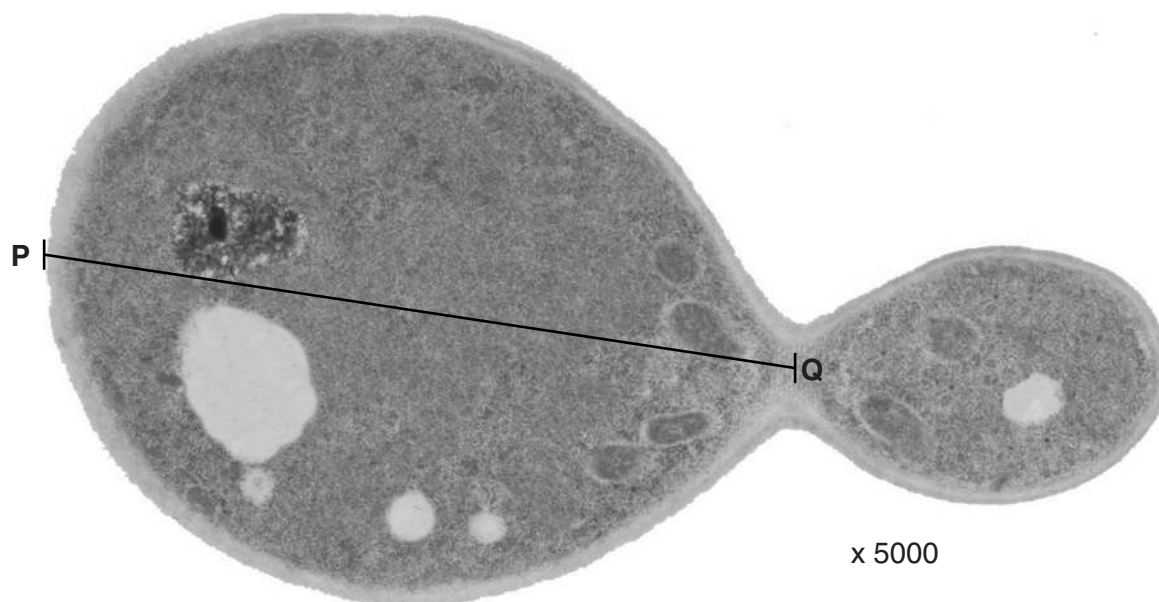

Fig. 1.2
- (d) Fig. 1.2 shows yeast as seen using a microscope.
- (i) Describe what is occurring in Fig. 1.2.
- (ii)** You are going to calculate the actual length of a yeast cell shown in Fig. 1.2.